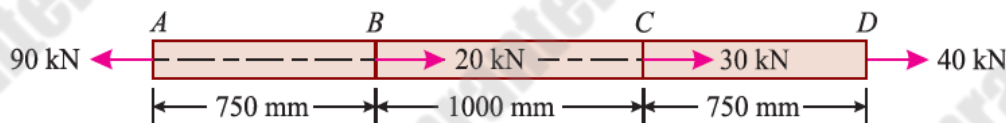

Fig. No. 1
- B) A steel bar of 600 mm2 cross sectional area is carrying loads as shown in fig. No. 1 U/CO-1 6